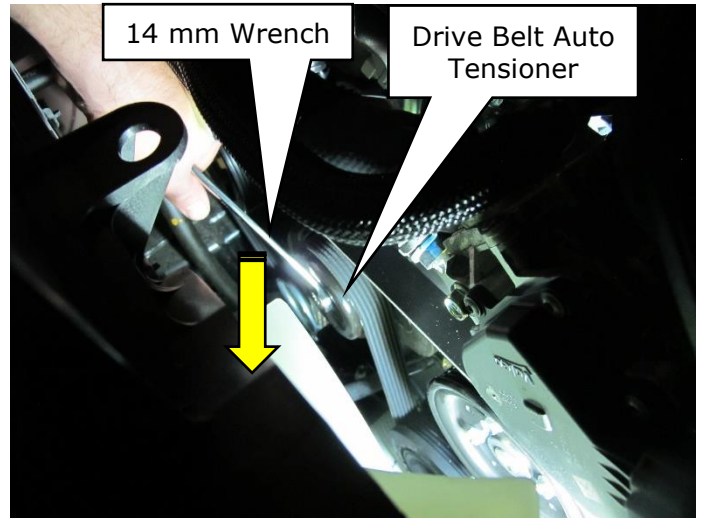

Figure 12
- Install a 14mm wrench on the drive belt auto tensioner, push down on the wrench to release belt tension (Figure 12)